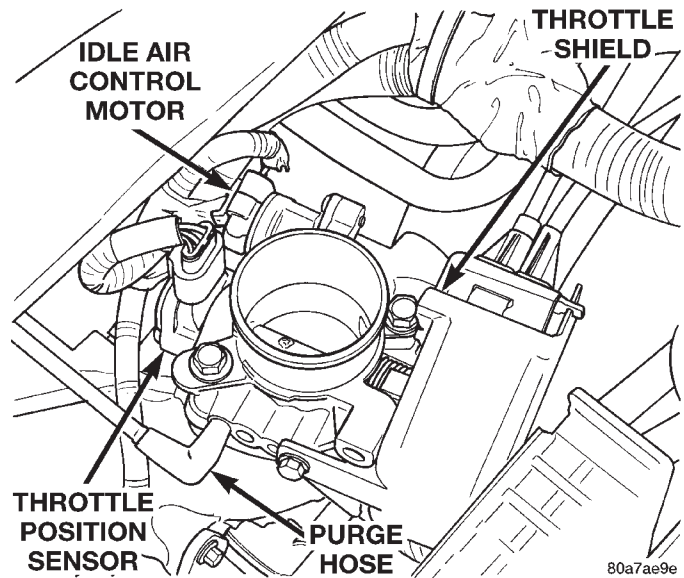
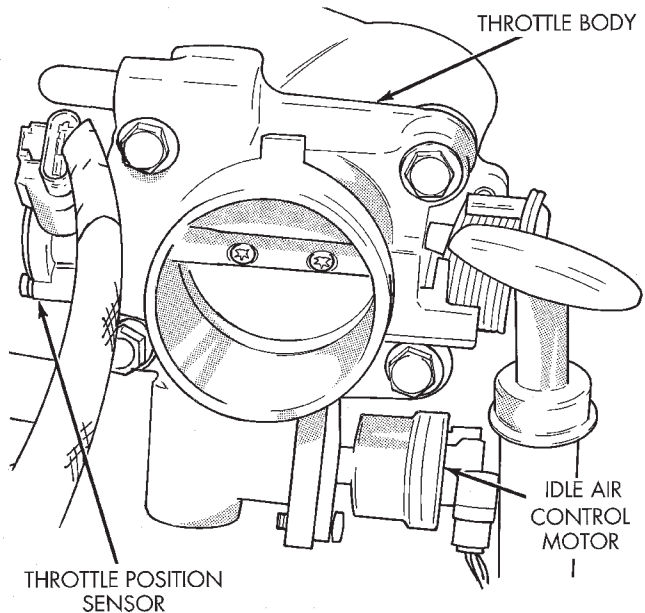

Fig. 34 Idle Air Control Motor and Throttle Position Sensor—2.4L Engine
Fig. 35 Idle Air Control Motor and Throttle Position Sensor—2.5L Engine
(4) Inspect accelerator cable, and cruise control cable (if equipped) connections. Check their connections to the throttle arm of the throttle body for any binding or restrictions.
(5) Check the electrical connections at the idle air control motor and throttle position sensor (Fig. 34) or (Fig. 35).